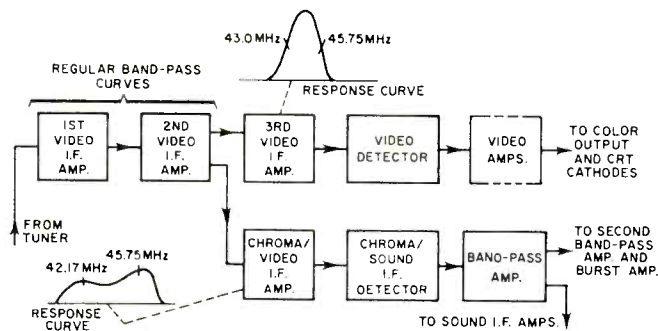

Fig. 2. Video section of Hitachi CWA-200 12-in set.
One difference between the CWA-200 and what you might expect starts in the video i.f. amplifier section. See Fig. 2. There are four video i.f. amplifier transistors. Two of them amplify the entire video i.f. signal. However, past the second, the signal is split up. One of the third amps is aligned for a band-pass curve that accentuates the 45.75-MHz i.f. picture carrier and the vestigial side-band frequencies for about 2.75 MHz below it — down to about 43 MHz. Sound and chroma i.f. carriers are almost eliminated by this i.f. stage. It feeds a video (or luminance, if you prefer) detector, which feeds video (Y) signal to video amplifiers.
Fig. 2. Schematic of a.t.c. circuit showing two gating and one switching transistor which alter the phase of the chroma signal by applying a correction signal to the base of the Q4 chroma amplifier. The uncorrected chroma signal is applied to the emitter of this transistor, whose output is the vector sum of these two signals. The various LC circuits are for phase-shifting. Diode D1 allows switching transistor Q1 to conduct only during the positive peaks of the c.w. signal, while D2 clamps the base bias voltage of Q2 and Q3 to 0.6 V above ground. This assures that the positive portions of the low-level chroma signals forward-bias the gates during sample time. D.c. voltage for the circuit is derived from cathode of vertical-output tube via resistor and zener (not shown).